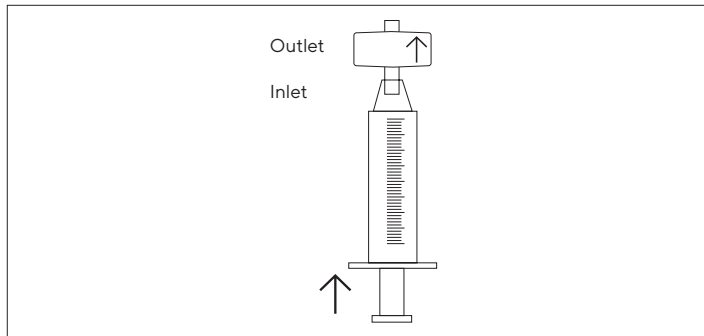

Fig. 7: Filling the Sartobind® Nano with a Luer syringe for air removal
- ▶ Fill a 10–20 mL Luer syringe with equilibration buffer and connect to the capsule, then hold capsule upright (outlet is up) and expel air as shown in Fig. 7.